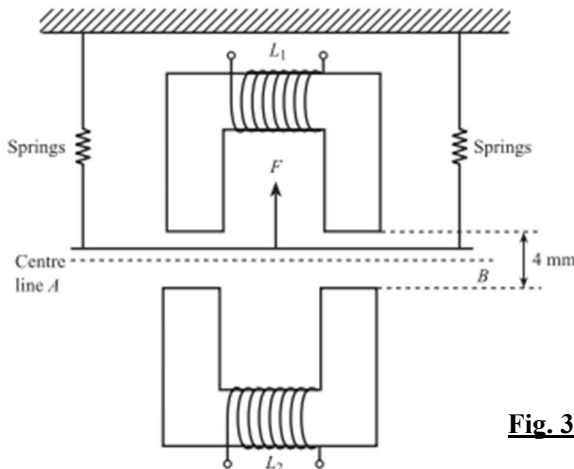
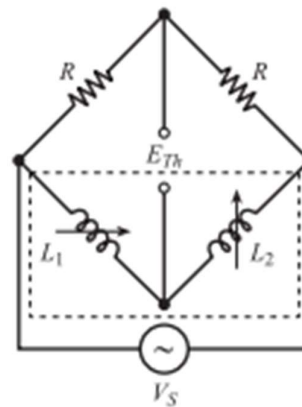

Fig. 3a
Fig. 3b
3. A variable reluctance sensor (shown in Fig. 3a), which is incorporated into the bridge circuit (shown in Fig. 3b), is used to measure force. When the applied force is 0 N, the armature is positioned along center line  $AB$ . Given, effective mass of spring and armature =  $30 \times 10^{-3}$  kg, damping ratio = 0.7, inductance of each coil =  $20/(1+3d)$  mH, where 'd' is in mm, and supply voltage of bridge is  $V_s = 2 \sin(2000\pi t)$  V.